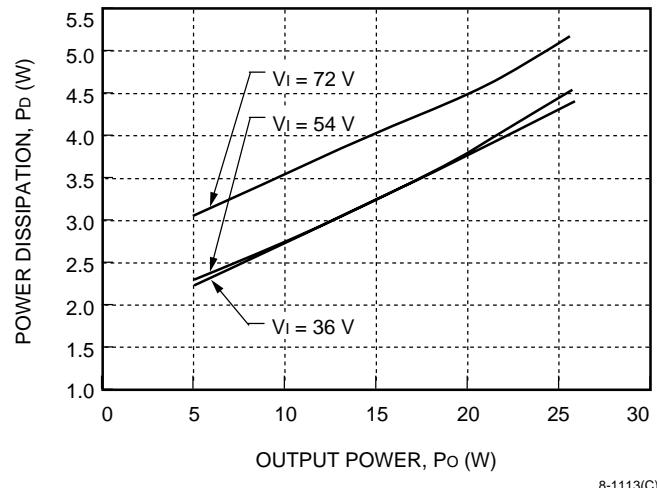

Figure 23. CW025ABK-M Fixed Losses, P_F
The maximum operating temperature of the CW025 Triple-Output-Series Power Modules at a given operating condition can be predicted by combining the power dissipation curves (Figures 23 through 27), the power derating curve (Figure 28), and the thermal resistance curve (Figure 29).
Use Figures 23 through 28 and the steps below to predict the safe operating region for many different operating and environmental conditions.
2. Use P_{total} with the appropriate figure (Figure 23 or 24) to determine the fixed losses (P_F) associated with operating at P_{total} . These losses are independent of which output the load is being drawn from.
$$P_F = 4.4 \text{ W} \text{ (from Figure 23)}$$